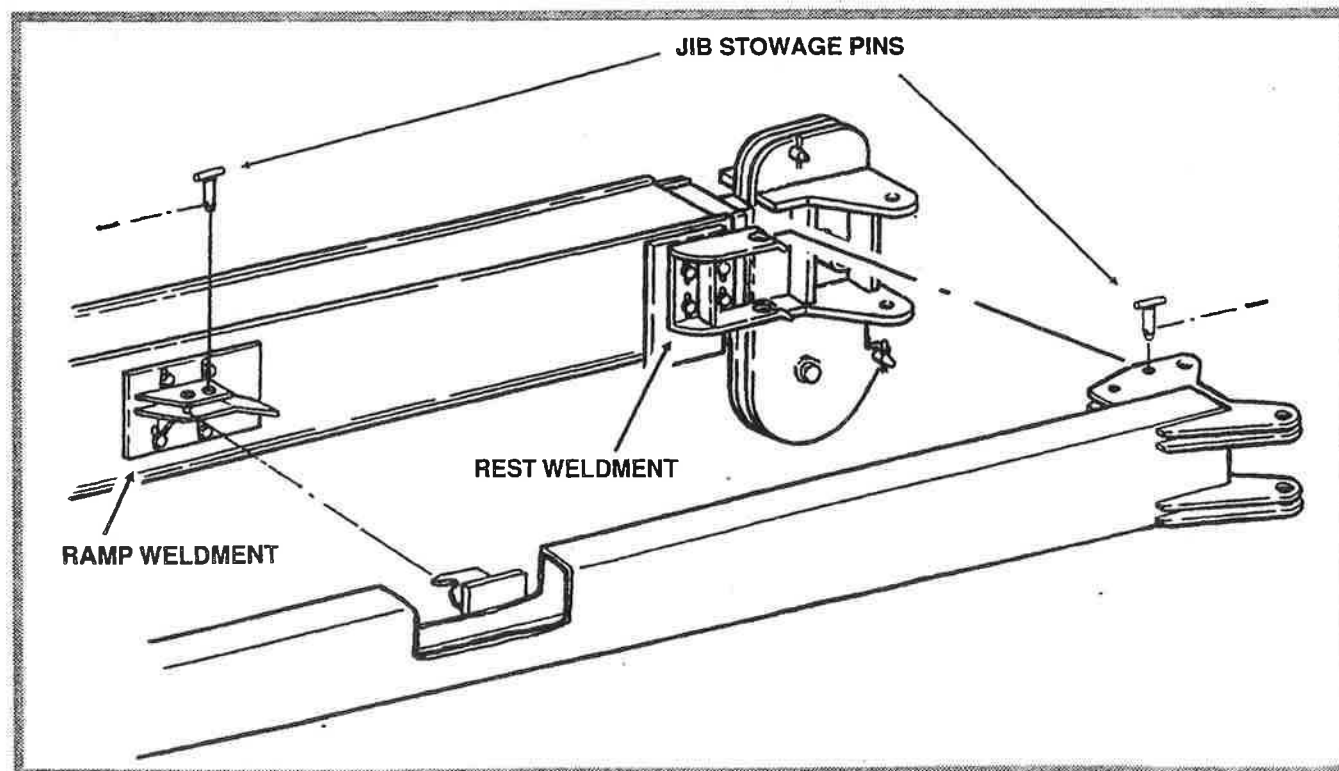

Figure 3-6. Jib Stowage Pins.
9. Remove the jib stowage pin, located on the ramp weldment of the jib, which secures the jib to the boom base section. (See Figure 3-6)